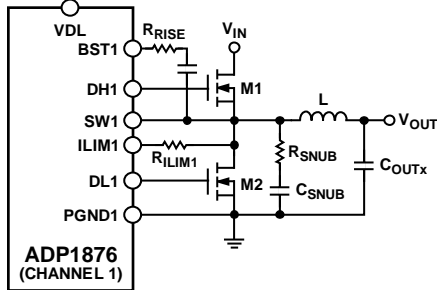

Figure 32. Application Circuit with a Snubber
In any high speed step-down regulator, high frequency noise (generally in the range of 50 MHz to 100 MHz) and voltage overshoot are always present at the gate, the switch node (SW), and the drains of the external MOSFETs. The high frequency noise and overshoot are caused by the parasitic capacitance, C_{GD} , of the external MOSFET as well as the parasitic inductance of the gate trace and the packages of the MOSFETs. When the high current is switched, electromagnetic interference (EMI) is generated, which can affect the operation of the surrounding circuits. To reduce voltage ringing and noise, it is recommended to add an RC snubber between SWx and PGNDx for high current applications, as illustrated in Figure 32.
A resistor, shown as R_{RISE} in Figure 32 at the BST1 pin, helps to reduce overshoot and is generally between 2 Ω and 4 Ω . Adding a resistor in series, typically between 2 Ω and 4 Ω , with the gate driver also helps to reduce overshoot. If a gate resistor is added, R_{RISE} is not needed.